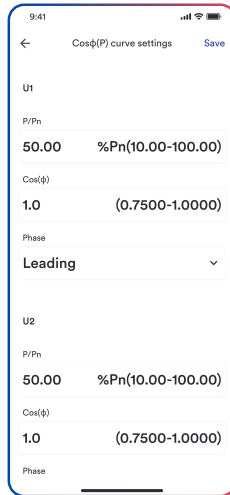

Figure 24. Cos (P) curve settings
5.2.16 Cos (P) curve settings
Cos (P) curve settings is as shown in Figure 24: